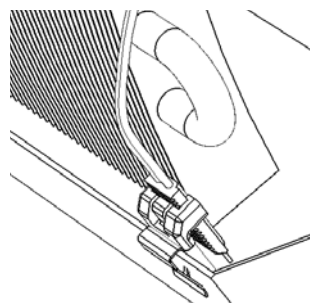

Figure 1a: Installation on Drain Pan
- Sensor Mounting to Pan (Figure 1a):**